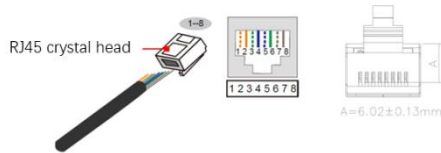

Figure 6-31 Cable preparation
Step 2: Peel off the network cable and use cable pliers to crimp the RJ45 crystal head (Need to comply with TIA-1096-A standard).The crimping height dimension is shown in Figure, as shown in Figure 6-31.